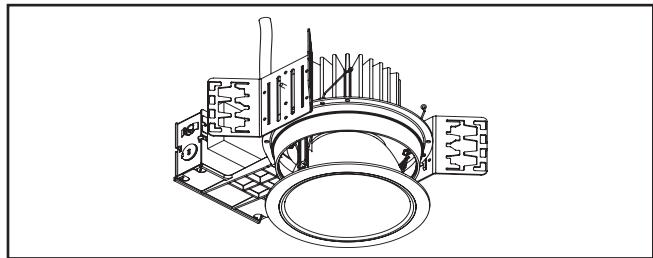

Figure 12
12. Install the LED engine and trim assembly by inserting the torsion springs into the spring receivers located inside the housing (Figure 12).